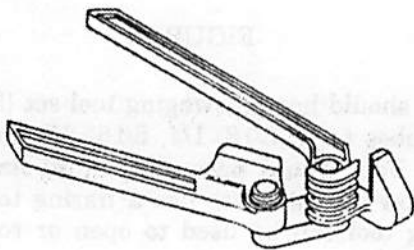

FIGURE 4
•You should have a tubing bender (fig. 4).